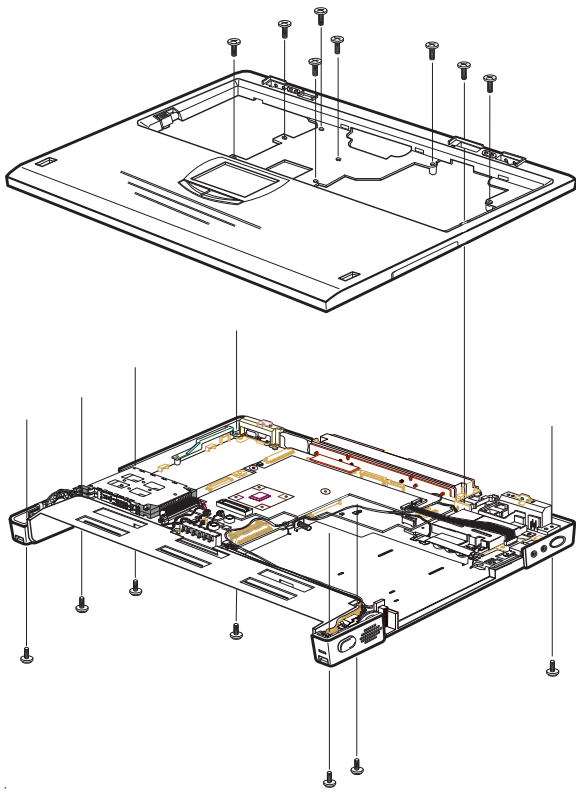

Figure 5-10. Removing Keyboard Deck Screws
8. Turn the system unit over so the bottom is up. Remove the two rubber feet and seven screws (Figure 5-10).
10. Remove the eight screws that hold the keyboard deck and LCD and Audio cables in place (Figure 5-10). Note: the LCD and Audio cables are secured to the top of the DC-to-DC Converter.